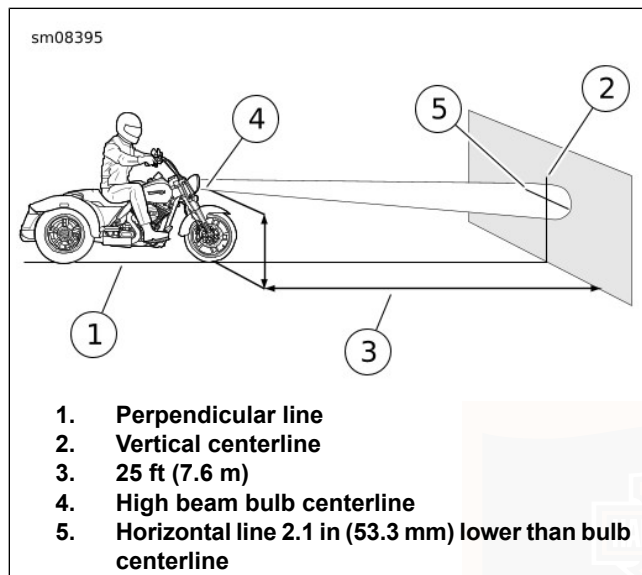

Figure 77. Headlamp Alignment: FLRT
4. See Figure 77. Park the motorcycle on a line (1) perpendicular to the wall.
6. Draw a vertical line (2) on the wall.